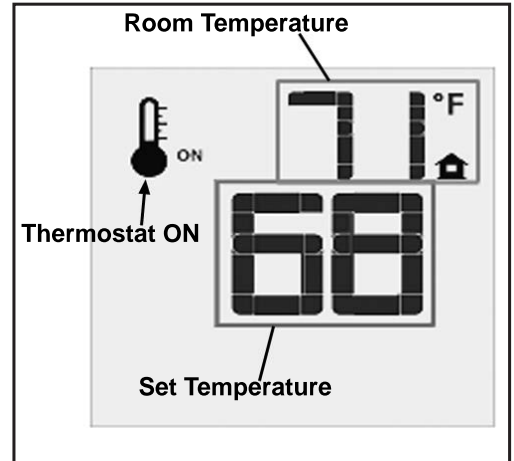

Figure 8: Thermostat Function
The Proflame 2 Transmitter is a remote control with a blue backlit LCD display. It uses a streamline design with a simple button layout and informative LCD readout (Figure 3). The Transmitter is powered by three (3) AAA type batteries. A Mode Key is provided to Index between the features and a Thermostat Key is used to turn on/off or index through Thermostat functions (Figure 8 & 9).